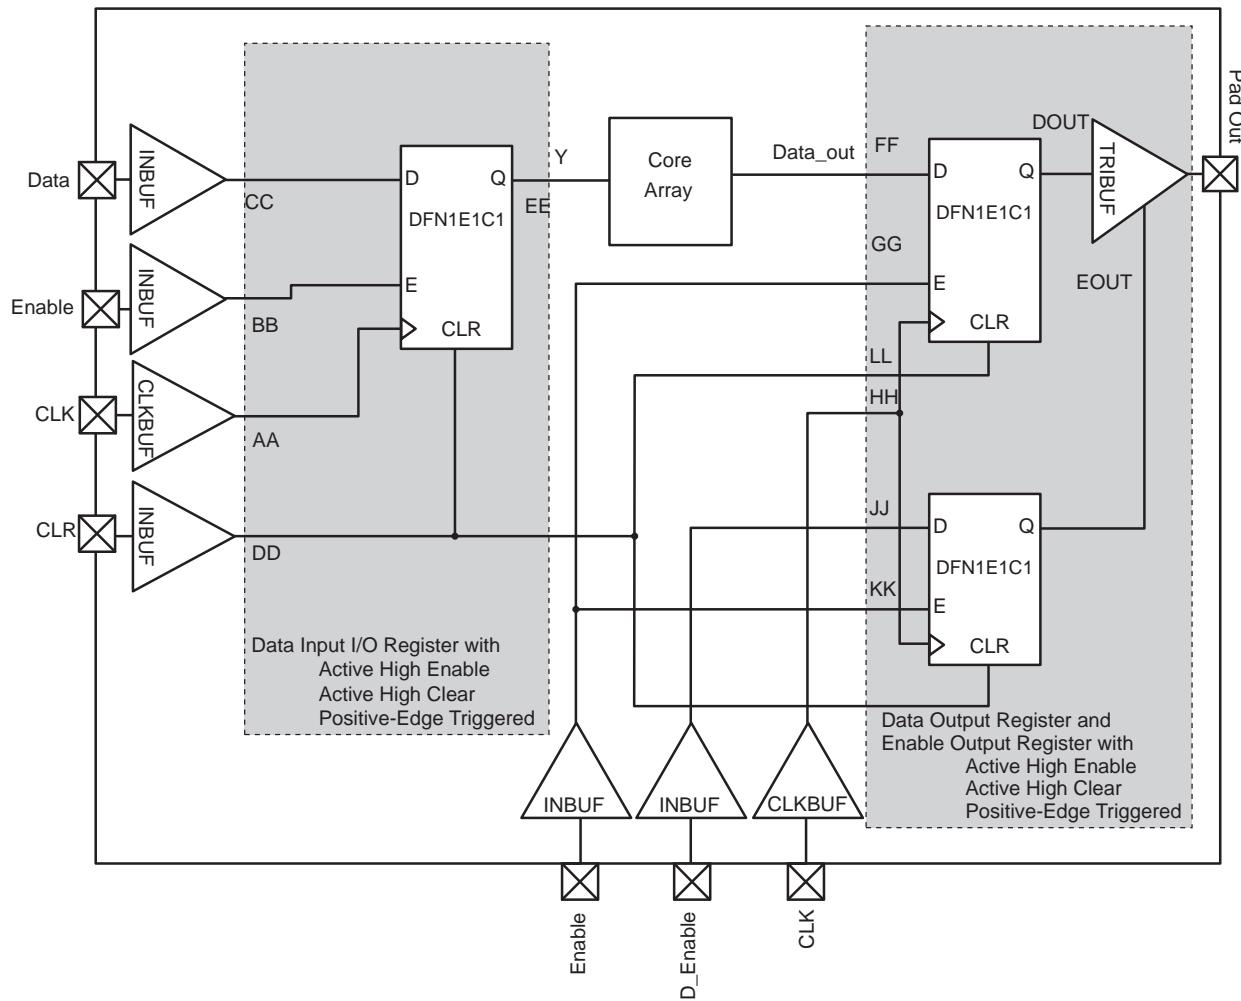

Figure 2-15 • Timing Model of the Registered I/O Buffers with Synchronous Enable and Asynchronous Clear
* See Figure 2-15 on page 2-73 for more information.